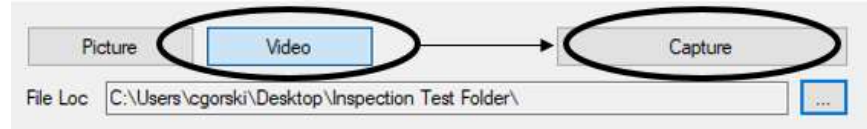

Figure 11
1. Select the 'Video' Button on the Software. **Fig. 11**
- A. Click the 'Capture' Button on the Healthmark Viewer Software. **Fig. 11**